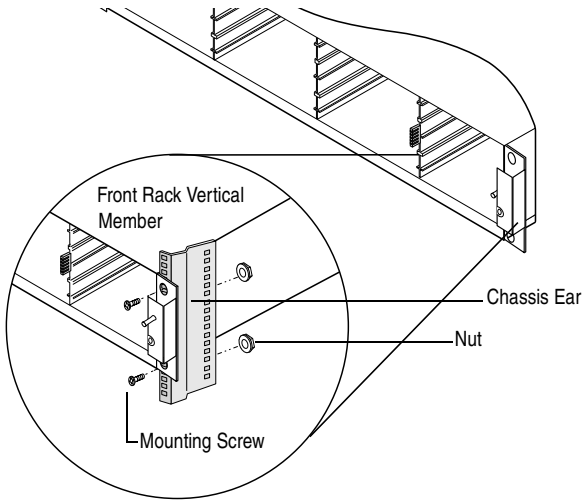

Figure 3-7 Attaching the Chassis Ears
- 4 Secure the left and right front chassis ears to the rack's front vertical members using the supplied screws and nuts. See Figure 3-7.